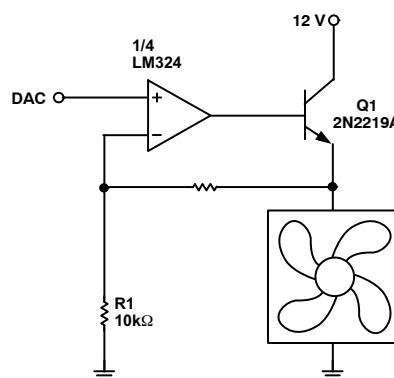
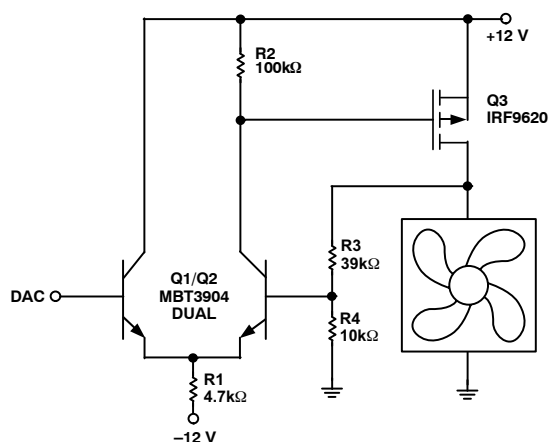

Figure 35. Fan Drive Circuit with Op Amp and Emitter-follower
Figure 39. Discrete Fan Drive Circuit with P-channel MOSFET, Dual Supply
Suitable fan drive circuits are shown in Figure 35 through Figure 39. When using any of these circuits, note the following:
- All of these circuits provide an output range from 0 V to almost $+12 \text{ V}$, apart from Figure 35, which loses the base-emitter voltage drop of Q1 due to the emitter-follower configuration.